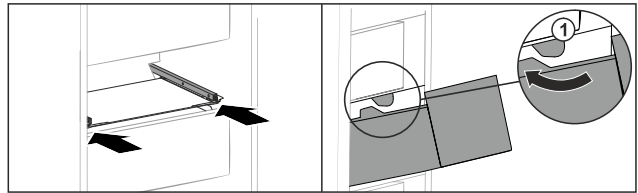

Fig. 208
- ▶ Guide drawer around the stoppers Fig. 208 (1).